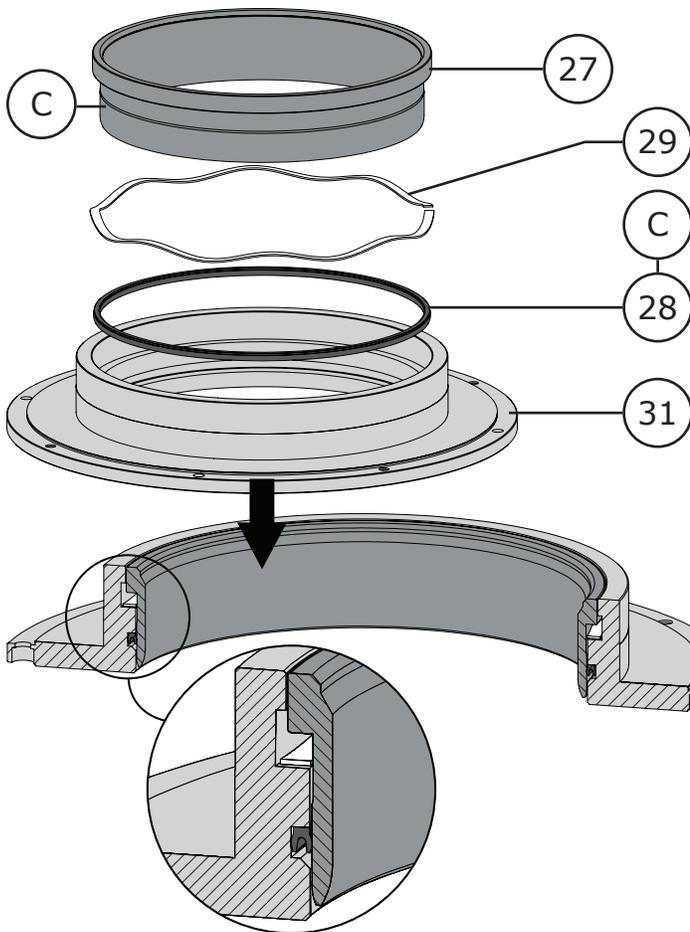

Figure 67 Metal Ball Seal Assembly
- 3** Apply Lubriplate® No. 105 Grease (Key C) to the radial seal (Key 28) and install it in to the radial seal groove in the seal protector ring (Key 31). The 'cup' or open side of the radial seal needs to face away from the valve ball (Key 6). Refer to Figure 67.